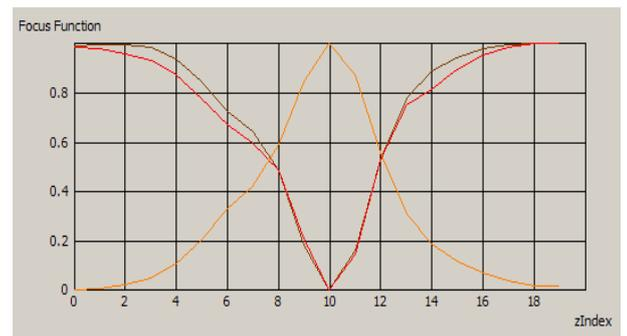

**Fig. 4-224** Running the Calibration Matrix
- This window provides three check boxes (Fig. 4-224)